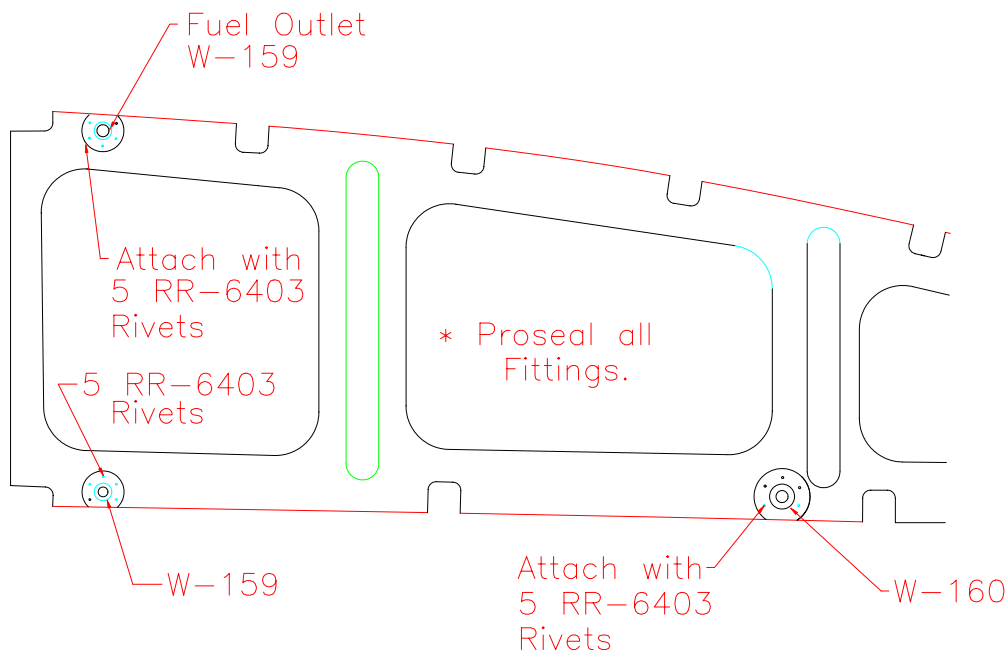

Figure 8.21.1
1) Trim two Fuel Tank Outlets (W-159) and fit one at the lower front corner and one at the top corner of the Root Rib (These will be used as sight gauge fittings). Drill five #30 holes through the flange into the Root Rib. **NOTE:** Locate the Fuel Tank Outlet as close as possible to the upper forward corner of the rib. It may be necessary to flatten, (with a hammer and dolly), the stiffening swage of the rib in the immediate area of the Fuel Tank Outlet. Figure 8.21.1.
2) Trim a Fuel Tank Outlet (W-160) to fit at the lower rear corner of the Root Rib (just in front of the Bulkhead). Drill five #30 holes through the flange into the Root Rib as in Figure 8.21.1. **NOTE:** It should be as close as possible to the corner without overlapping the Bulkhead Flange. Carefully flatten, with a hammer and dolly, the stiffening swage of the Root Rib in the immediate area of the Fuel Tank Outlet (W-160) fitting.